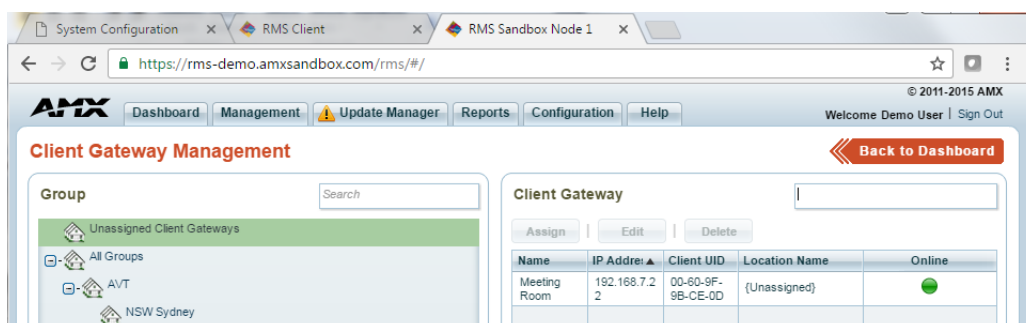

FIG. 485 RMS Enterprise - Client Gateway Management
4. To verify the connection on the RMS server browse to the RMS servers' web page and select **Unassigned Client Gateways** under *Client Gateway Management* (FIG. 485):